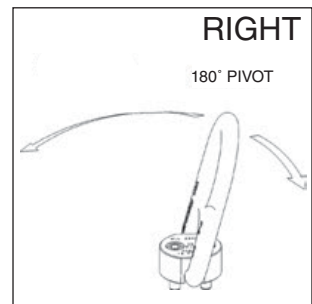

Figure 4
- Always ensure free movement of the bail. The bail should pivot 180 degrees (Figure 4).